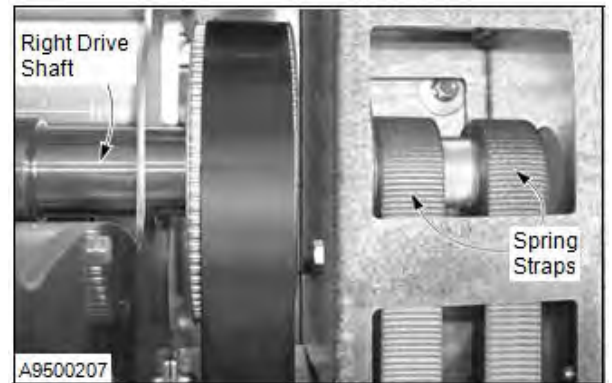

Figure 59
8. Then remove the steel plate and all associated hardware used to clamp the strap to the shaft. Save all hardware. (See Figure 59.)